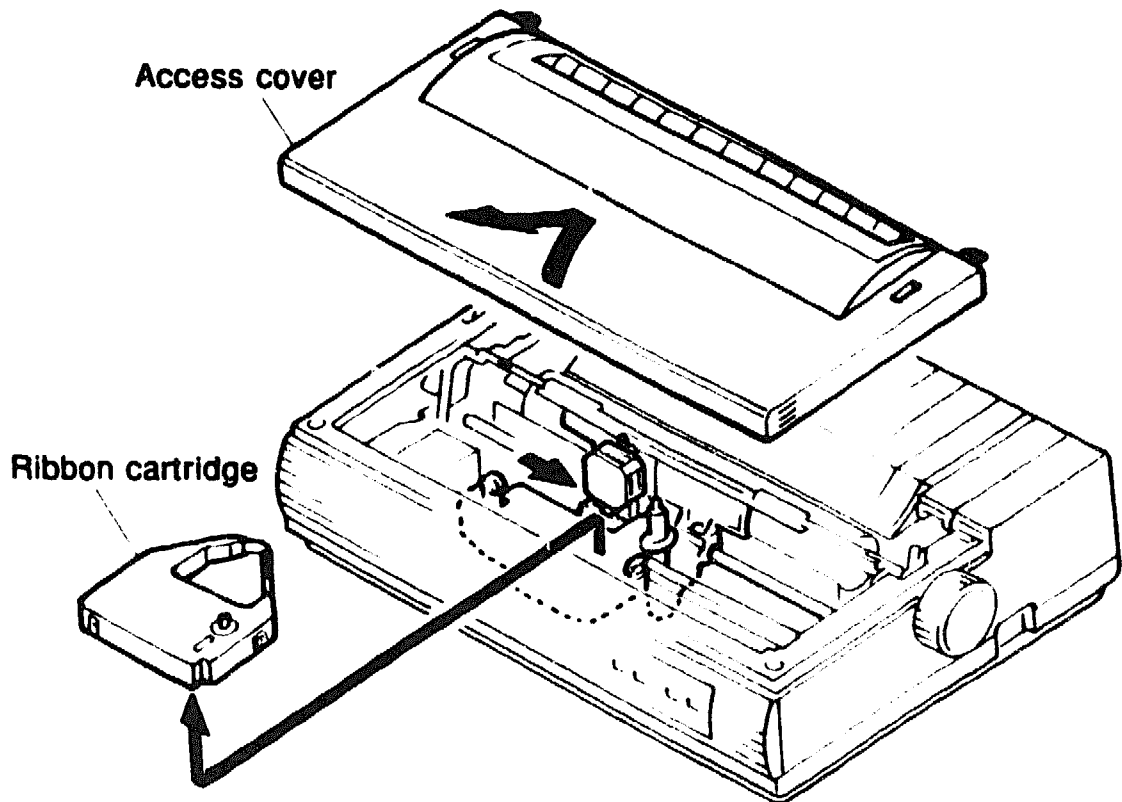

Figure 6-3 Removing the Access Cover and the Ribbon Cartridge
The printhead can be replaced by removing the access cover. Access to all other FRUs is gained by removing the top cover (see Figure 6-3).
1. Remove the access cover (Figure 6-3).
2. Remove the ribbon cartridge (Figure 6-3).